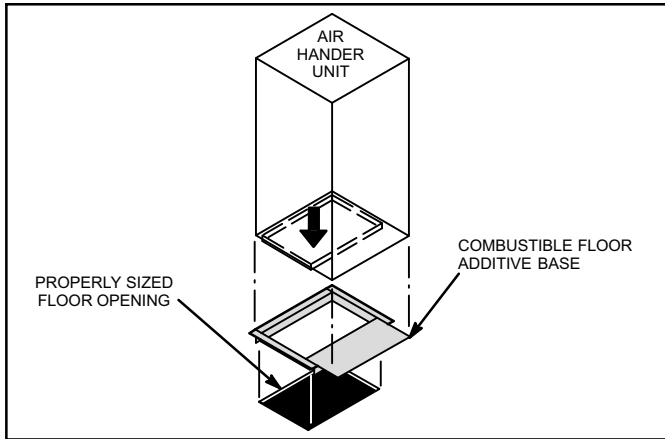

Figure 9. Downflow Combustible Flooring Base
- For downflow installation on combustible flooring, an additive base must be used as illustrated in figure 9 on page 9. See *CBX32MV Engineering Handbook for downflow combustible flooring base kits available for this air handler.*